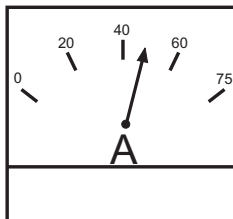

Figure 28. Ammeter (Load)
12. Observe at the generator's ammeter (Figure 28) and verify that it reads the anticipated amount of current with respect to the load. The ammeter will only display a current reading if the load is in use.